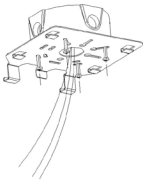

Fig. 5
3. Feed the incoming wires from the junction box through the centre hole in the mounting plate. Attach the mounting plate to the junction box using appropriate fasteners (Fig. 5).